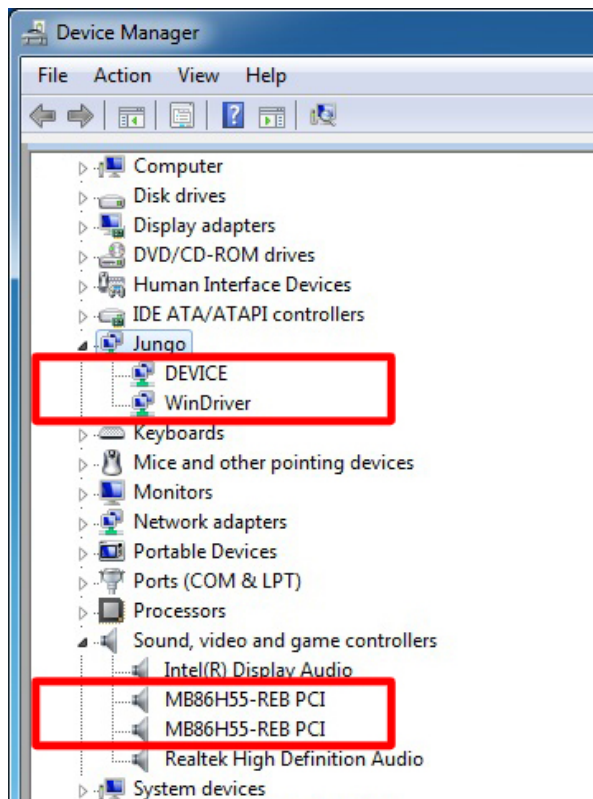

Figure 3-9: Device Manager – 64-bit OS
- Step 7:** Check the device manager in the Windows control panel to ensure the driver (MB86H55-REB PCI, DEVICE and WinDriver) has been properly installed. See **Figure 3-9** for the details.